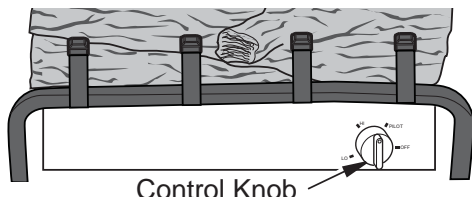

Figure 39 - Control Knob and Igniter Button Location
4. Wait five (5) minutes to clear out any gas. Then smell for gas, including near the floor. If you smell gas, STOP! Follow "B" in the safety information, column 1. If you don't smell gas, go to the next step.
5. Press in control knob and turn counterclockwise  to the PILOT position (see **Figure 39**). The Igniter will spark once. Keep control knob pressed in for 5 seconds. If control knob does not pop up when released, contact a qualified service person or gas supplier for repairs.